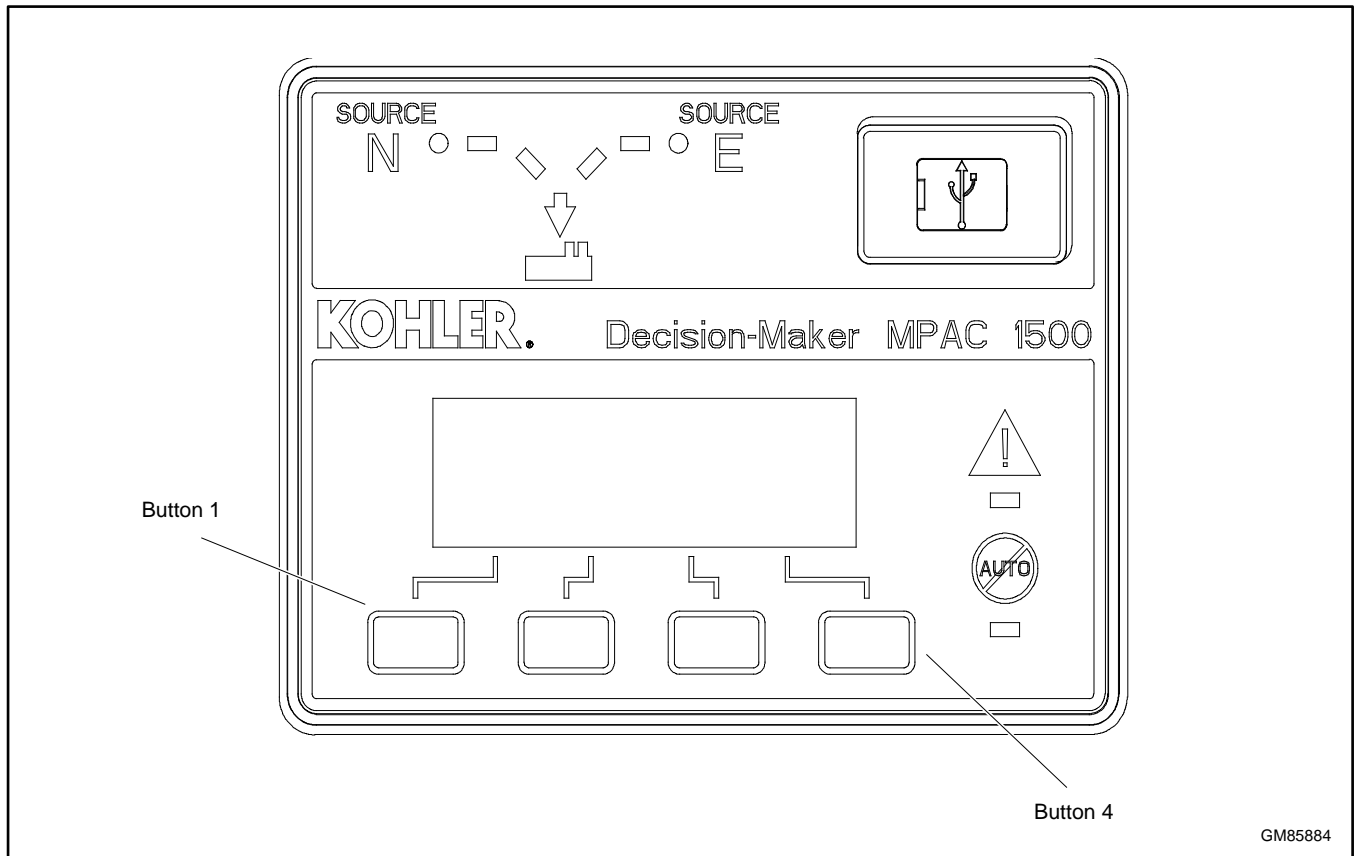

Figure 57 User Interface Panel
2. Press buttons 1 and 4 on the controller. See Figure 57.